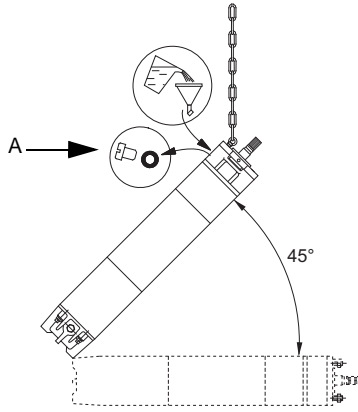

Fig. 4 Motor position during filling – MMS
1. Place the motor at a 45 ° angle with the top of the motor upwards, see fig. 4.